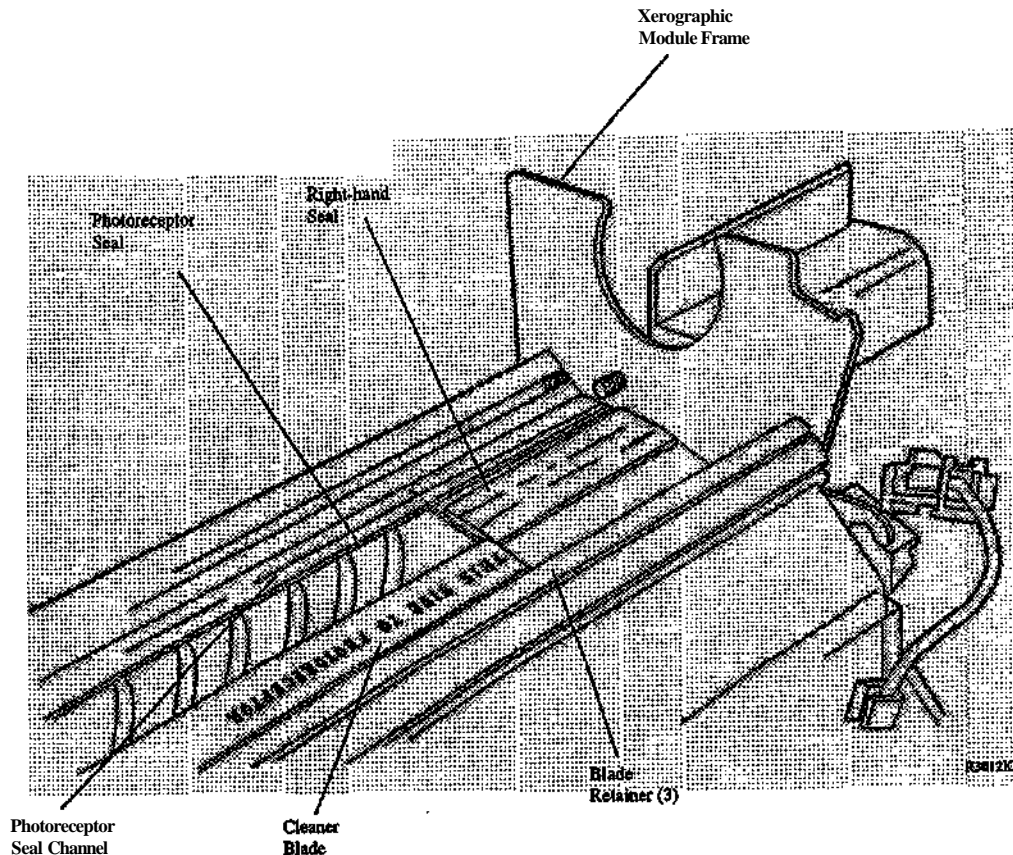

Figure 1. Removing the Cleaner Blade
2. (Figure 1): Remove the Photoreceptor Seal, Right-hand Seal, Left-hand Seal, Cleaner Blade, and the three Blade Retainers from the Xerographic Module.